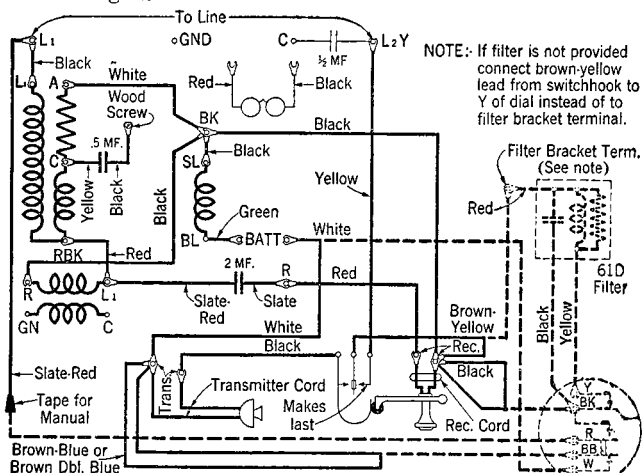

Fig. 4—653YD—Anti-Sidetone Subscriber Set (Manual or Dial)
1.04 Fig. 2 shows the 653Y set with a 113D induction coil and Fig. 4 shows the 653YD subscriber set with a 104A induction coil. Either type of set may come equipped with either coil but the coils are not interchangeable in the field. The corresponding terminals of the two coils are given below. ↗
Note: For maintenance only. For new installations use Fig. 4.